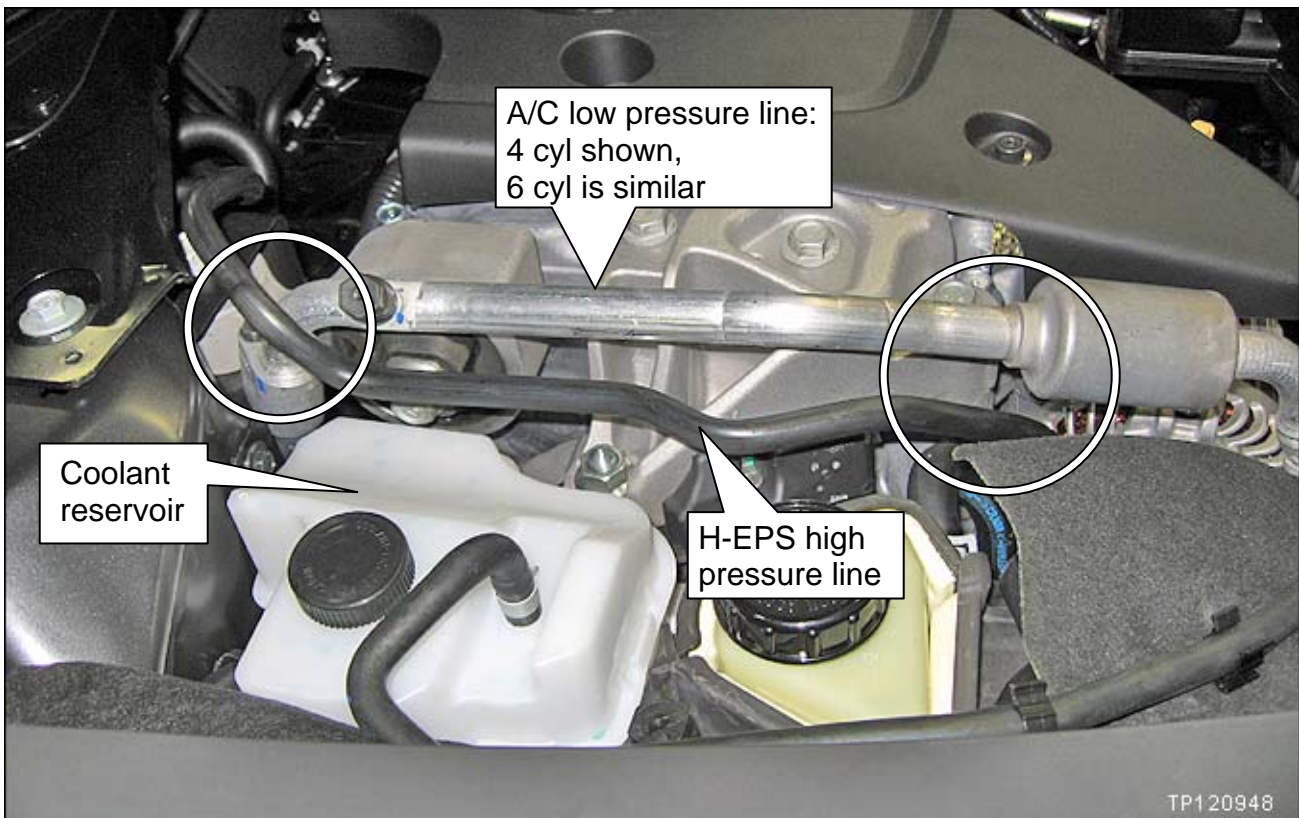

Figure 5
5. Make sure the H-EPS high pressure line and the A/C low pressure line are **not** touching (see Figure 5).
- Check the two locations circled in Figure 5.
6. Make sure the H-EPS high pressure line is **not** touching the coolant reservoir (see Figure 5).